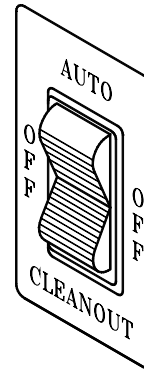

Fig. 2
3. Level the unit by turning the bottom part of each leg clockwise or counterclockwise (Fig. 2). The machine **MUST** be level to operate properly.
2. Set each control switch (Fig. 2) to the “**CLEANOUT**” position momentarily to verify the direction of rotation of the dasher. It should rotate counter-clockwise.